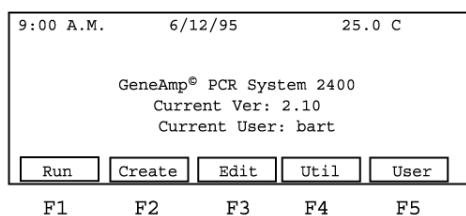

Figure 2-1. The Main menu
1. Pressing **F1-Run** from the Main menu (Figure 2-1)